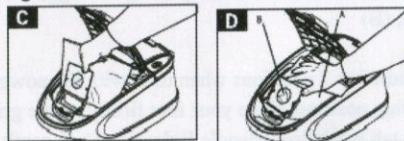

Fig. 6.2
Form the new filter bag into a box-like shape. Slide bag collar firmly into the holder, Fig 6.2, (C). Push the rear edge of the bag into the bag cavity below seat, (D-A). Clear the bag opening, (D-B), by pushing the pierced paper through opening toward bag interior. Close bag lid. Note, the bag lid will not close without a filter bag in place.